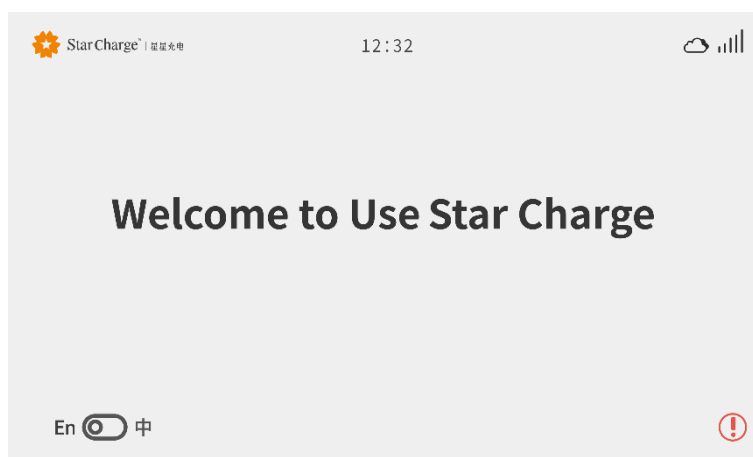

Figure 3-7 Abnormal charging interface
Step 8 When the LED status indicator of the charging device is red, it means that the charging device is malfunctioning, and an exclamation mark will appear in the lower right corner of the charging main interface, as shown in Figure 3-7.